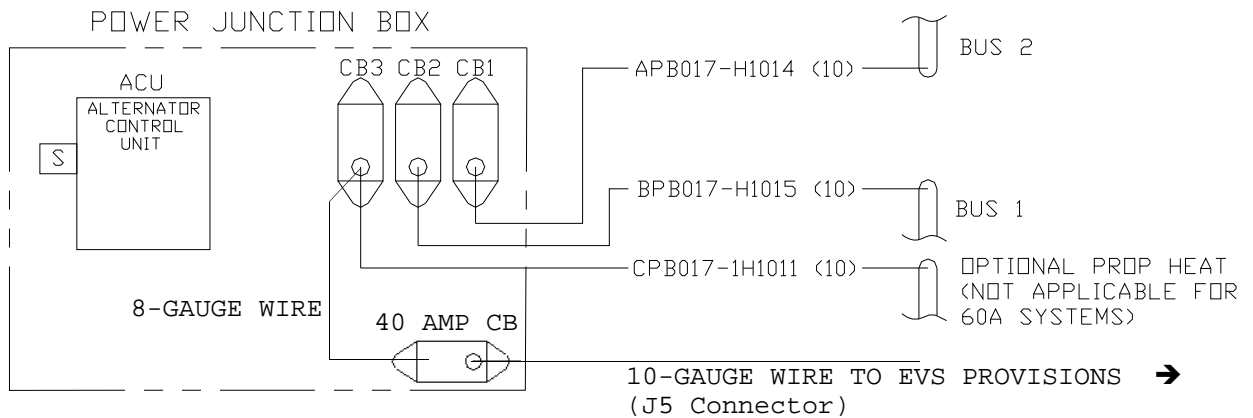

FIGURE 6 – Alternate Configuration of Wires Changed from Power Junction Box to Electrical Buses for aircraft provisions IAW SEB-34-04
5. Relocate the original 40 Amp RCB that was replaced by the new AvSpec 50 Amp RCB to bottom of the PJB and connect to the 50 Amp RCB with the 8-gauge wire, figures 3 through 5. The 40 Amp RCB is installed with MS27039-0806 machine screws, AN960D08L washers, MS21083N08 nuts. The new jumper wire is installed from the 50 Amp RCB to the relocated 40 Amp RCB for EVS feed inside the PJB, figure 6.